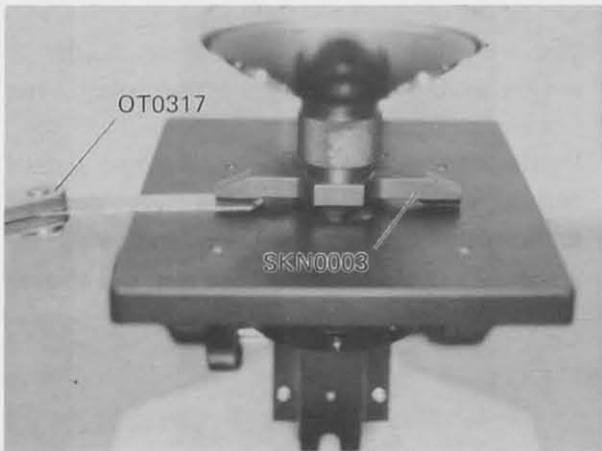

Fig. 9-1
- c) Measure gaps in the X direction by using Thickness gauge OT0317 between SKN0003 and stage surface. (See Fig. 9-1)